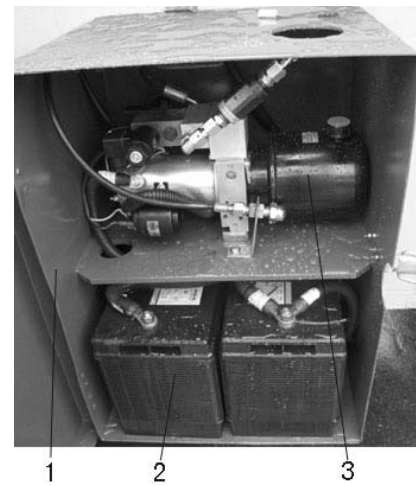

Figure 3-22
3.4.4.6 Battery Maintenance (figure 3-22)
3.4.5.3 Replace the hydraulic pump unit (figure 3-22)